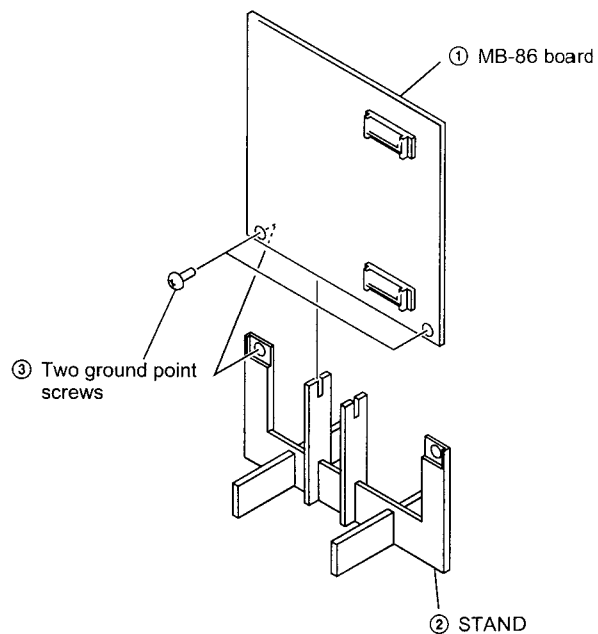

Fig. 3
- 5) Set the MB-86 board as shown in Fig. 3.